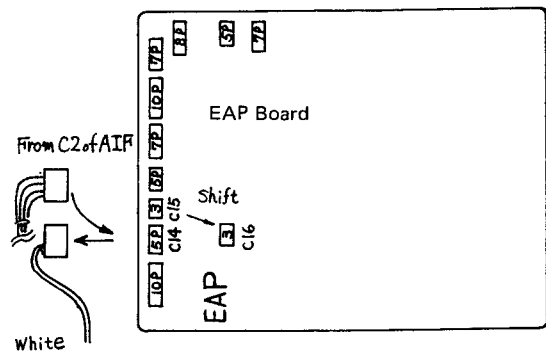

Fig. 7
17. Remove the MEP circuit board (upper left) from the support pins so that the EAP circuit board can be easily accessed (lower left). Disconnect the 5 pin socket to connector C14. Using tape or a cable tie, secure this cable in a location where it will not generate rattles, or short circuit possibilities (This connector is not used). Now, connect the loose end of the 5 conductor cable connected to C2 of the AIF circuit board in step #10, to connector C14 of the EAP circuit board (see figure 7). Reinstall the MEP circuit board.
20. Reinstall the digital circuit board cage retaining screws (4).
21. Lower the control panel to its normal position, and reinstall retaining screws (2).